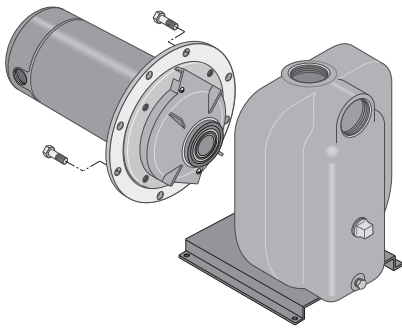

FIGURE 11 – SLIDE MOTOR BACK
5. Remove cap screws holding seal plate to pump body. Motor assembly and seal plate can now be pulled away from pump body (Figure 11).